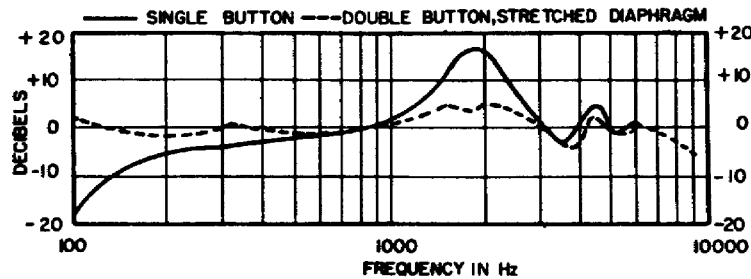

Figure 3-5. Frequency response of early model single-and, double-button carbon microphones
d. The disadvantages for the double-button microphone are similar to those of a single-button microphone, except the waveform distortion is less. Figure 3-5 pictures the frequency responses for the single-button and double-button microphones.